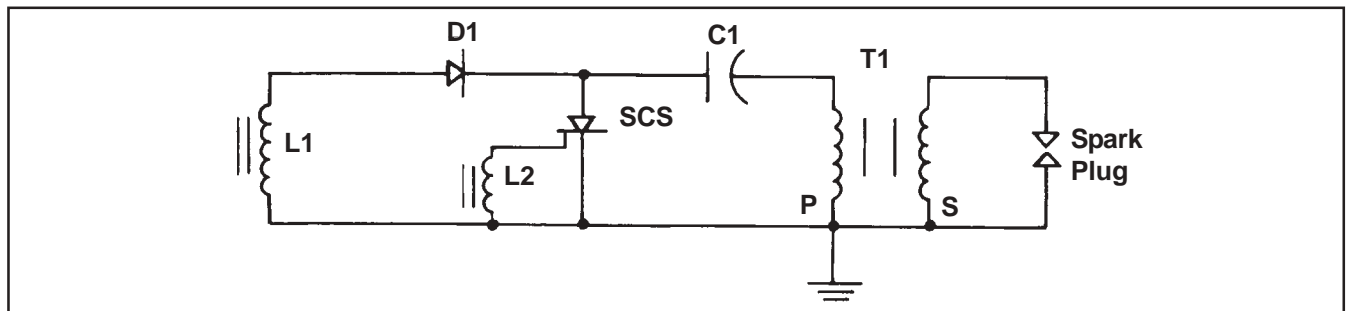
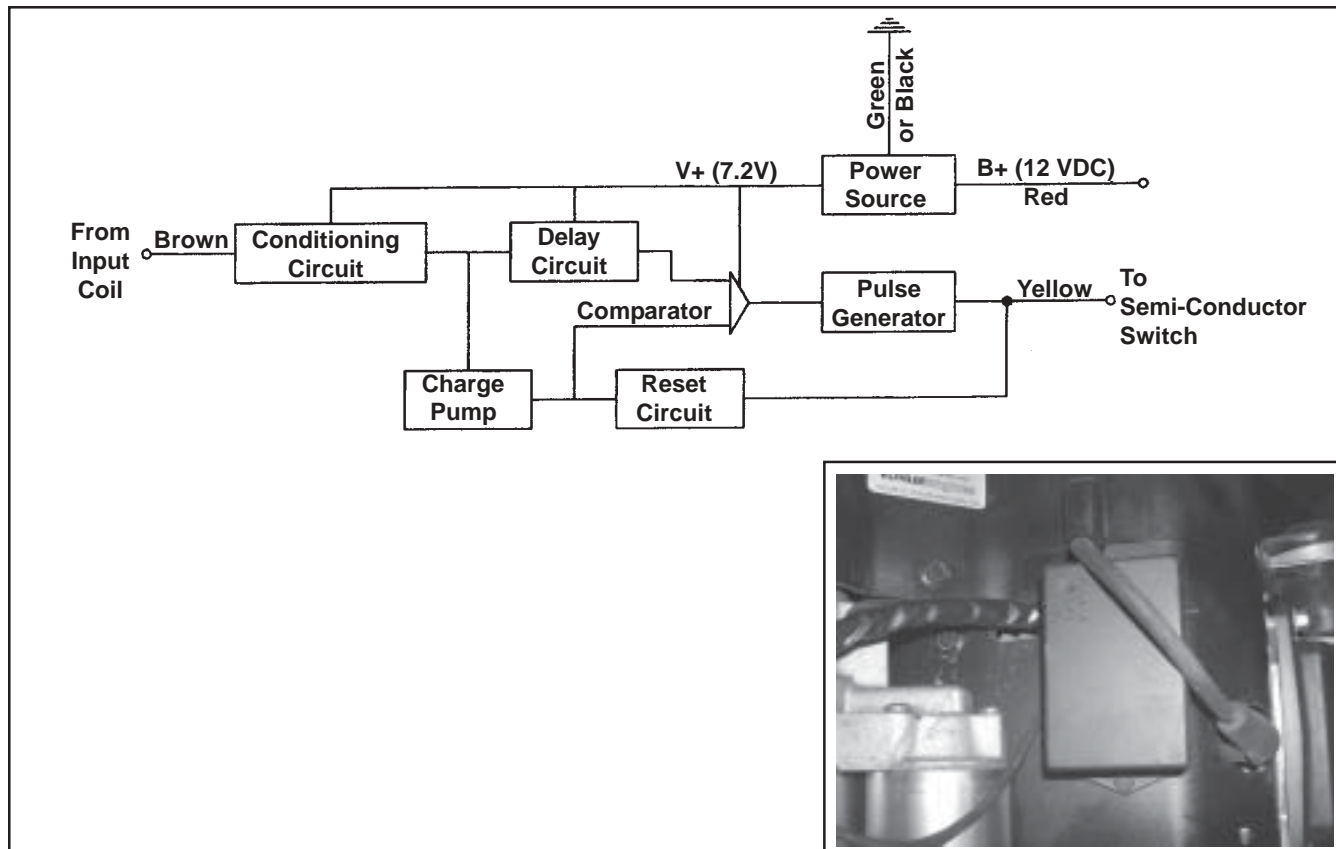

Figure 8-5. Capacitive Discharge Ignition Module Schematic.
Figure 8-7. Block Diagram - Spark Advance Module.
- A spark advance module which mounts to the engine shrouding (Figure 8-7).
Operation: The ignition module for this system operates in the same fashion as the fixed timing module, except the trigger circuit for the semiconductor (L2, Figure 8-5) is replaced by the spark advance module (Figure 8-7).
The pulse generated by the input coil of the ignition module (L1, Figure 8-5) is fed to the input of the conditioning circuit. The conditioning circuit shapes this pulse, putting it in a useable form for the additional circuits. This pulse starts the charge pump, which charges a capacitor in a linear fashion that can be directly related to the engine speed. At the same time the pulse resets the delay circuit for length of the pulse width. The comparator is off during this period and no output is generated. As soon as the original pulse drops back to zero, the capacitor in the delay circuit begins to charge.
When the charge on the delay capacitor exceeds the charge on the charge pump capacitor the comparator changes state, activating the pulse generator. This pulse turns "ON" the CD ignition module semiconductor. Energy is then transferred to the secondary of the output transformer (T1, Figure 8-5). The high voltage pulse generated here is delivered to the spark plug, causing arcing of the spark gap and igniting the fuel-air mixture in the combustion chamber. As the trigger pulse is generated, all associated circuits are reset, their capacitors discharged. The longer it takes the delay circuit to surpass the charge pump capacitor voltage, the later the trigger pulse will occur, retarding the timing accordingly.